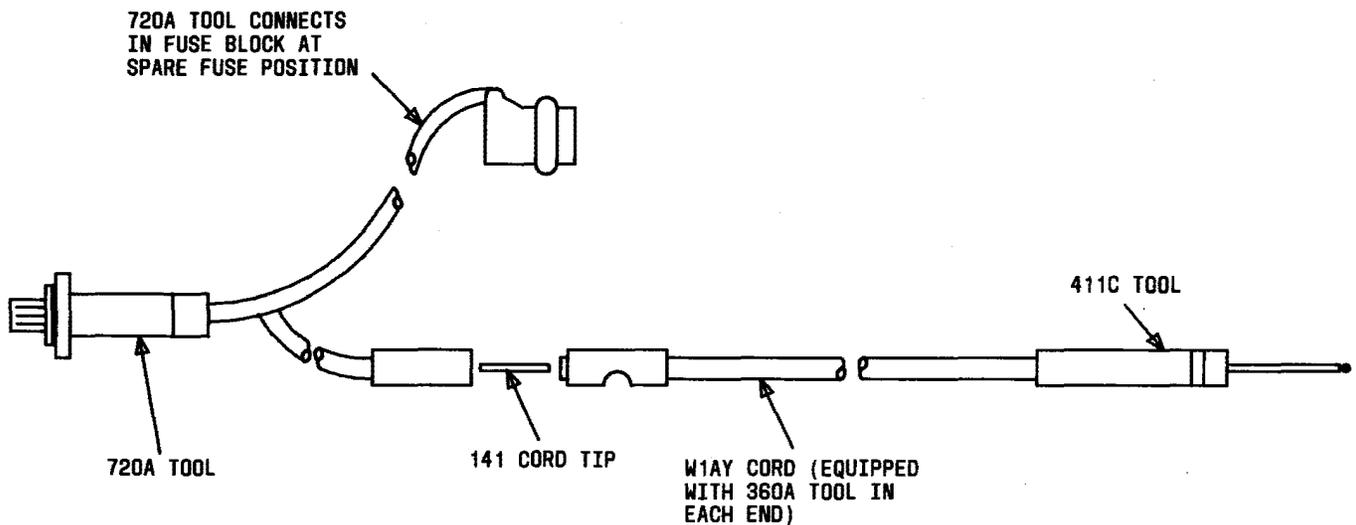

Fig. 14—Fuse Alarm Test Cord
- (1) Prepare the alarm test cord by connecting one end of the W1AY testing cord to the 141 cord tip and 720A voltage pickup tool. On the opposite end of the W1AY testing cord, connect the 411C test tool. (See Fig. 14).
- (2) Verify that the 720A tool is equipped with a good 70G 1/2-ampere fuse.
- (3) At the J85516B or J85516C plant control unit fuse panel, install the 720A voltage pickup tool